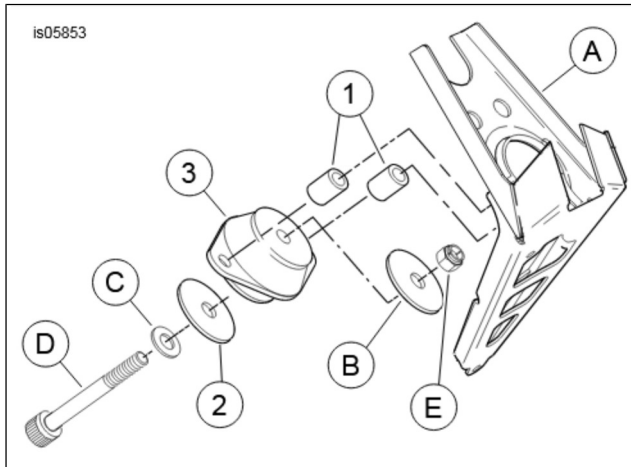

Figure 3. Service Parts: Front Isolator
See Figure 3 and Table 1.
1. See Figure 3. Install two standoffs (1), snubber (B), main isolator (3) and new snubber (2) with the main isolator bolt (D), spacer (C) and locknut (E).